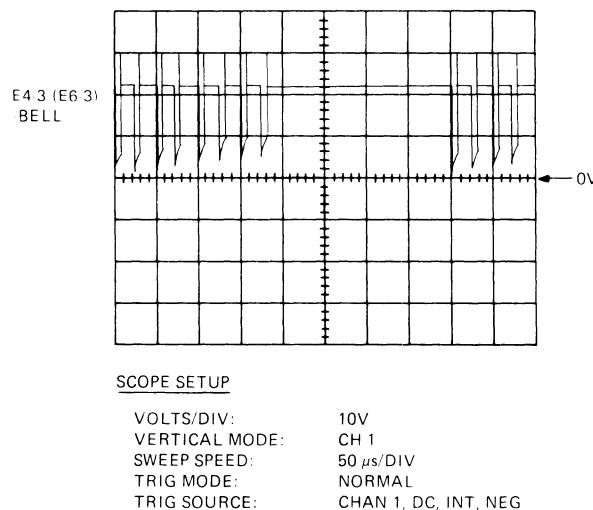

Figure 6-3 Bell Test Waveform
3. Connect channel 1 of scope to E4-3/E6-3 (-BELL). Set up scope according to Figure 6-3.
5. Check the bell circuit by pressing **CTRL/G**. The waveform displayed on the scope should be similar to Figure 6-3. The microprocessor and print controller generate a pattern of 8 chopping pulses every 400  $\mu$ s, for a tone of 2.5 KHz.